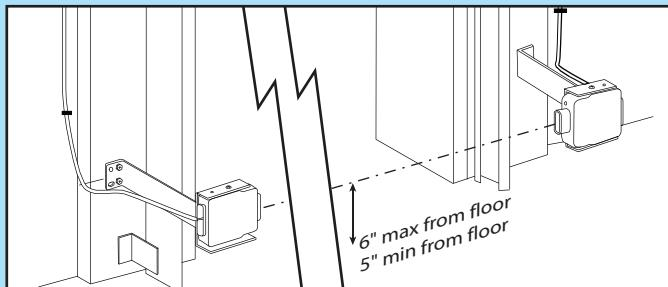

FIG. 5-4 Check Safe-T-Beam® alignment.
WITH POWER SUPPLIED:**Check Safe-T-Beam® alignment (Fig. 5-4).**
- Ensure that tops of lenses are between 5" - 6" above the floor (Fig. 5-4). The brackets are flexible, and can be adjusted slightly if needed.